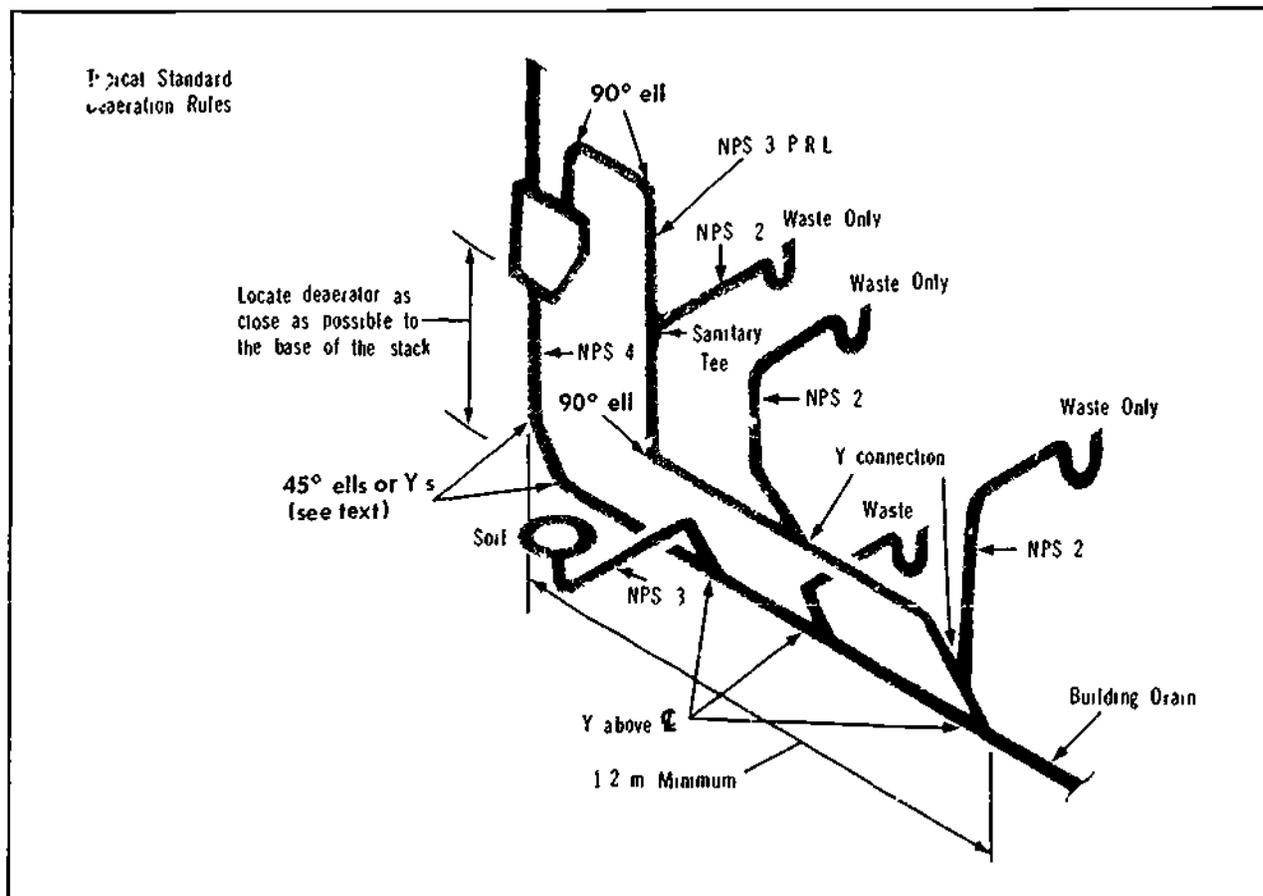

Figure 37-16. Installation of Deaerator Above Base of Sovent Stack
37. Each Sovent stack normally empties through a Sovent deaerator into the horizontal building drain (Figure 37-16). The deaerator should be installed as close as possible to the building drain. Below the deaerator, 45° ells or Ys are used, usually one of each as this provides for installation of a clean-out. Should a continuous drain pass under the Sovent stack, the stack could enter the top of the drain by a similar procedure. The horizontal building drain should be sized in accordance with local codes.